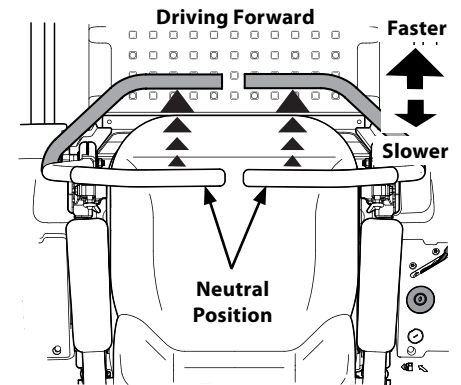

Figure 3-3
- Slowly and evenly move both drive control levers forward. The tractor will start to move forward. See Figure 3-3.